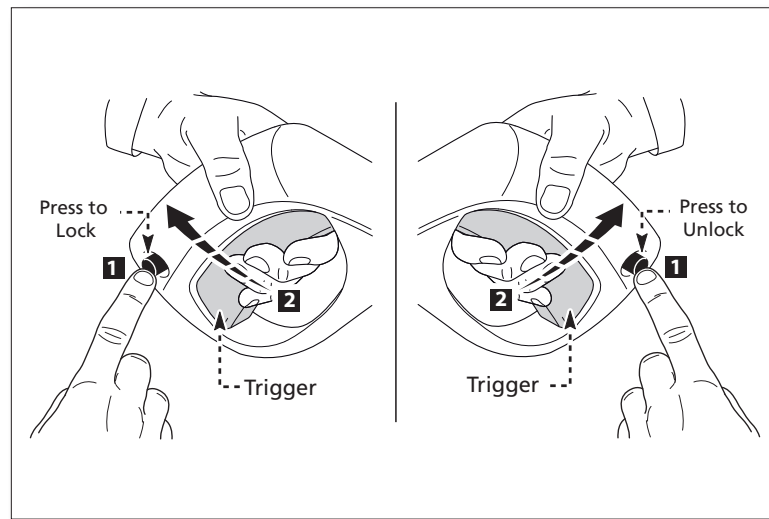

Fig. 7
- To lock the trigger of the spray gun aim the gun away from you and push the lock button from right to left, (**Fig. 7**), after doing so, squeeze or pull the trigger to make sure it is locked and will not move. Always leave lock button in lock position when not in use. This ensures the gun is in “safe” mode until it is ready for use.